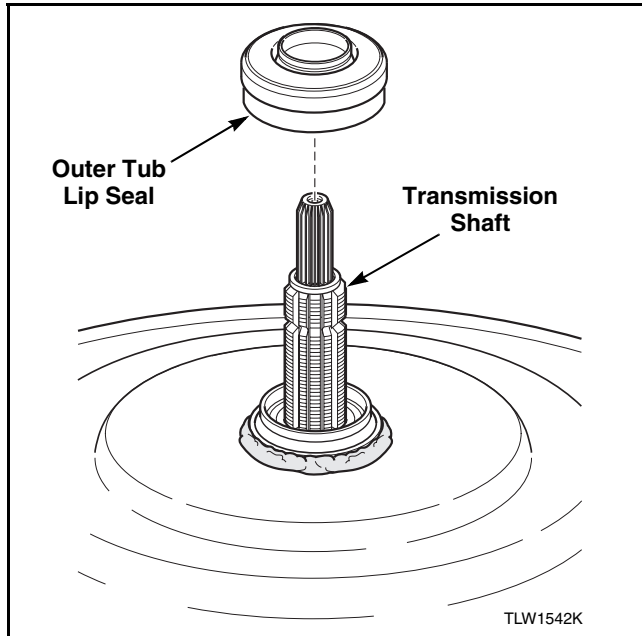

Figure 58
- n. Place outer tub lip seal over upper half of transmission shaft. Refer to *Figure 58*.